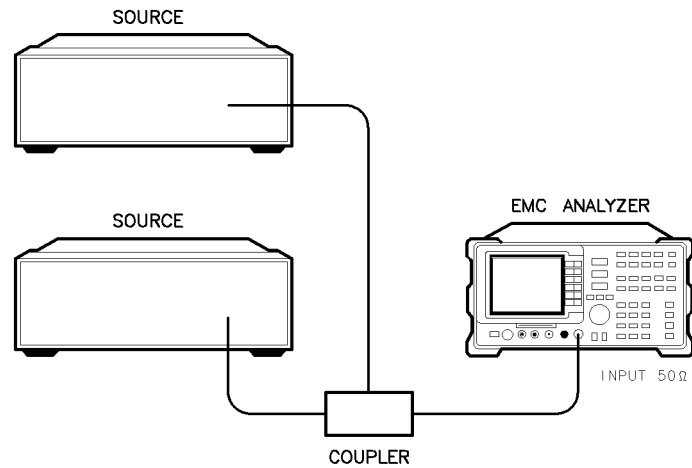

Figure 7-30. Set-up for obtaining two signals.
1. Connect two signal generators to the input of the analyzer as shown in Figure 7-30. Set one signal to 300 MHz, 92 dB μ V (–15 dBm) and the other to 305 MHz, 27 dB μ V (–80 dBm). Increase the amplitude of the 305 MHz signal if it is masked by the noise level of the 300 MHz source.